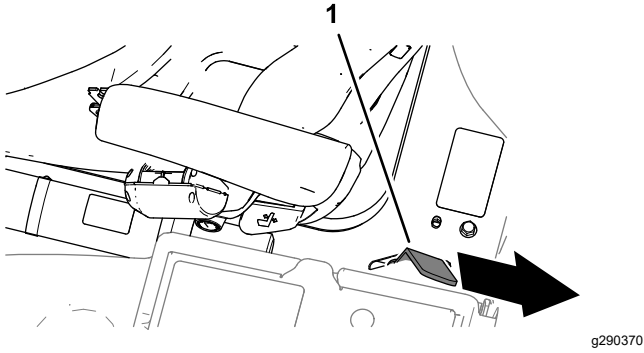

Figure 46
- Fully lower the platform and move the platform-latch handle toward the rear of the machine until the latch hooks fully engage the locking bar (Figure 46).